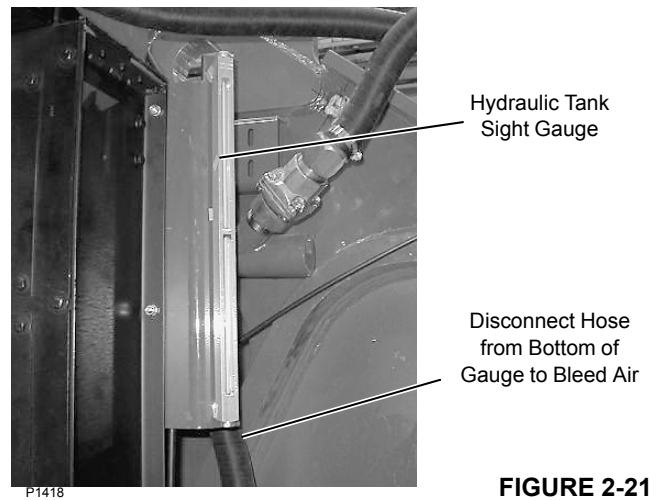

FIGURE 2-21
9. Fill hydraulic tank to FULL HOT level mark on sight gauge (Figure 2-21).